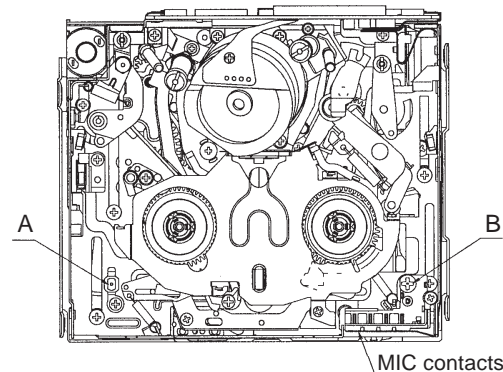

Fig. 2
- (1) Remove the cassette controller assembly (refer to 8-2).
(2) Referring to 8-1, apply DC3V to the loading motor and put the system into playback mode.
(3) Taking adequate care so that the master plane does not contact drum, running parts (guide roller, etc.), or the MIC contacts. Fit the master plane holes to the 2 guides (A and B) in Fig. 2.